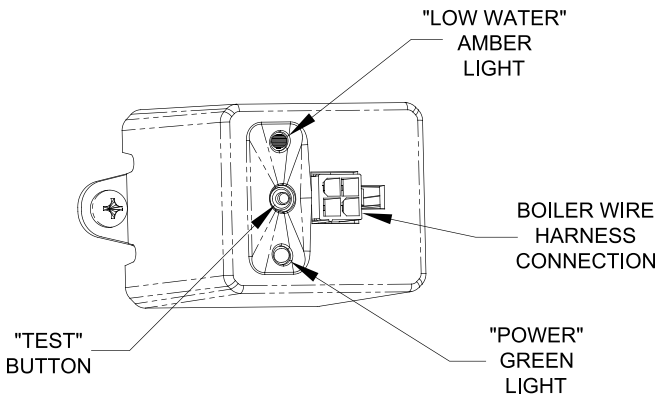

Figure 12: IDL 1200 Low Water Cut-Off
1. Before filling the boiler with water, turn on power to the boiler and set the thermostat to call for heat. Both the green "POWER" LED and amber "LOW WATER" LED should illuminate (see Figure 12). The burner should not fire. **WARNING:** If the burner fires with no water at the probe, immediately shut down power to the boiler and contact the factory for assistance.